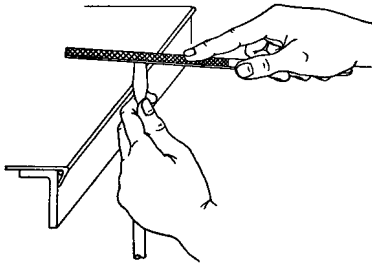

Figure 4. Filing Tip of Screwdriver
- d. Grasp the file securely so that its movements can always be controlled. Place the file on the tip of the screwdriver, parallel with the flat surface and apply sufficient pressure for the teeth to grasp the metal. Move the file forward and parallel to the surface of the tip of the screwdriver (see Figure 4). On the return stroke, the file should be lifted slightly above the surface being filed to avoid dulling the cutting teeth. Continue this process until the desired shape has been obtained.